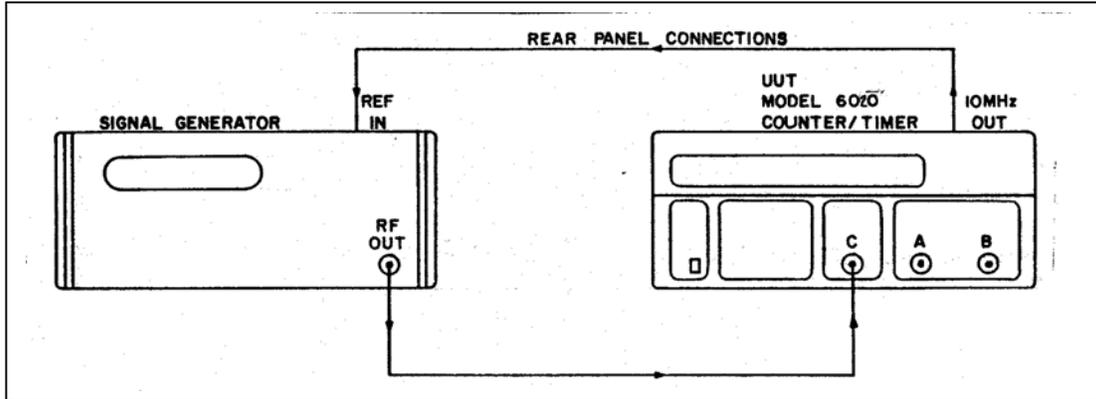

Figure 5-6. Channel C Sensitivity Test Set-up.
1. Connect the test equipment as described in Figure 5-6.